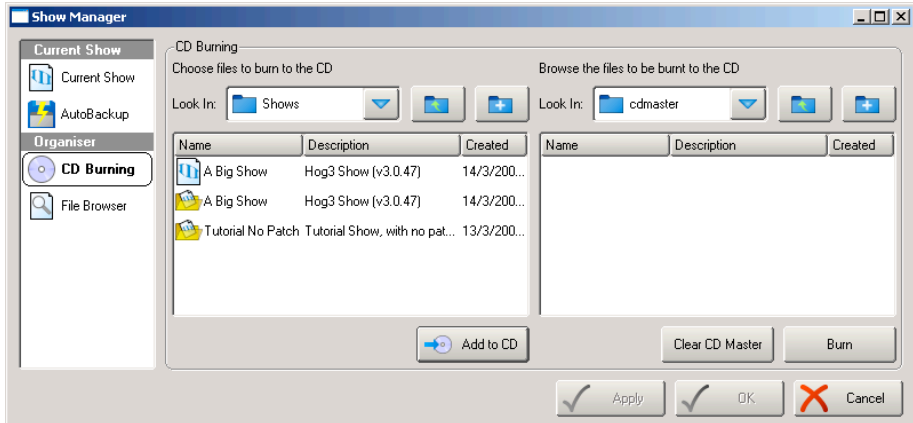

Figure 13.21. The CD Burning pane of the Show Manager window
1. Setup → Shows → CD Burning : see *Figure 13.21, “The CD Burning pane of the Show Manager window”*.